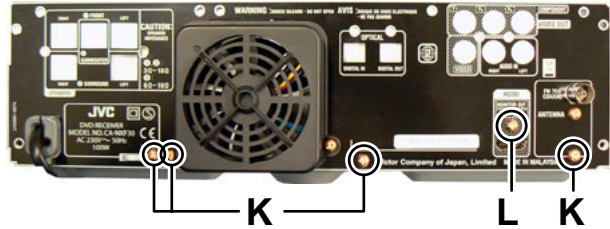

Fig.14
3.1.6 Removing the Rear panel (See Fig.14)